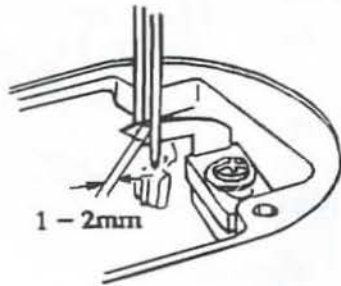
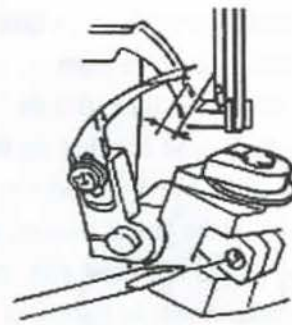

Fig. 11
Fig. 12
(4) When the small looper is in its left most position, the position of the slot bottom in the small looper must come out 1 to 2mm from the side face of the hook needle as illustrated in *Fig.11*. If this projection is excessive, the chain-off thread will be difficult to come out. To adjust the position of the small looper, loosen the setscrew in the small looper block as illustrated in *Fig.12*.